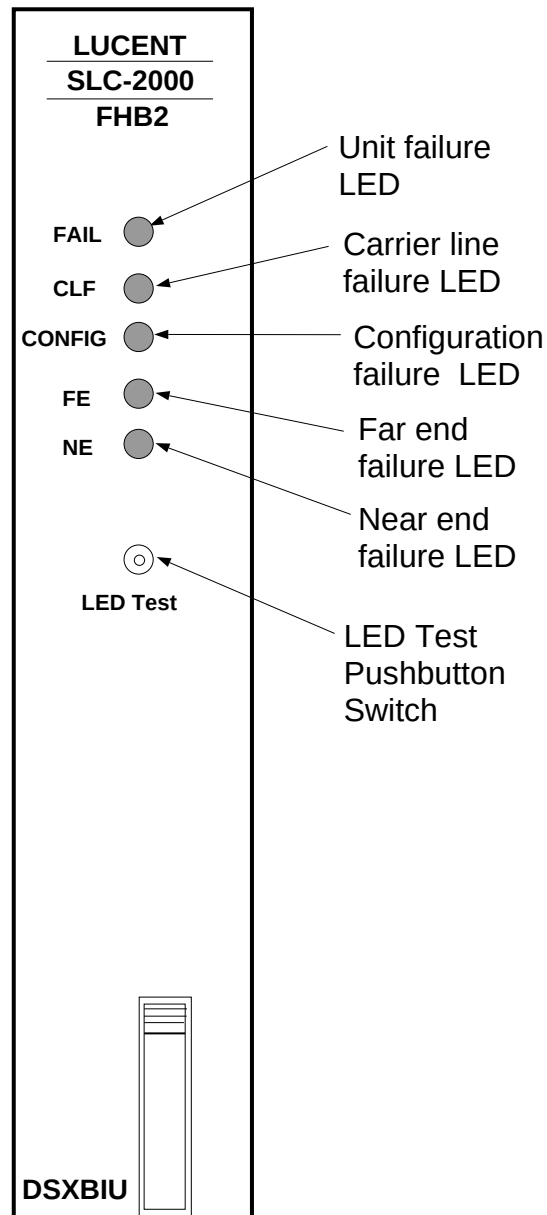

Figure 2 – Faceplate of DSXBIU
12. Press **LED TEST** pushbutton on DSXBIU (Figure 2).